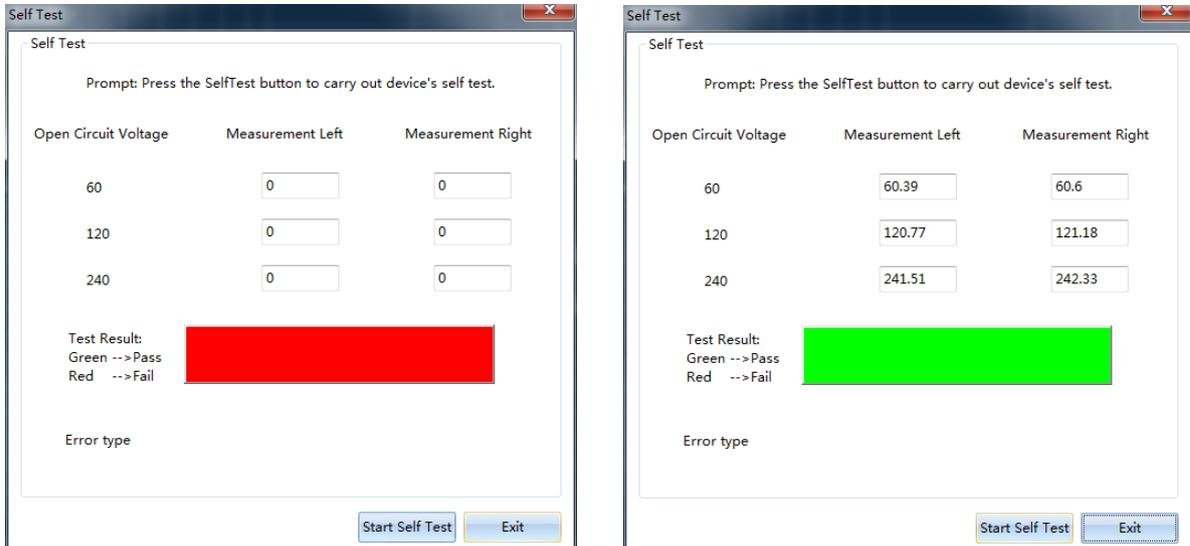

Figure 3.37 Instrument Self Test
Open mode: select the “Self Test” under “Tools” in the menu bar, and Figure 3.37 (L) pops up. Click the the “Start Self Test” button and wait for a moment. Green indicates that the instrument’s self test is pass, while red is fail, pass is as shown in Figure 3.37(R).